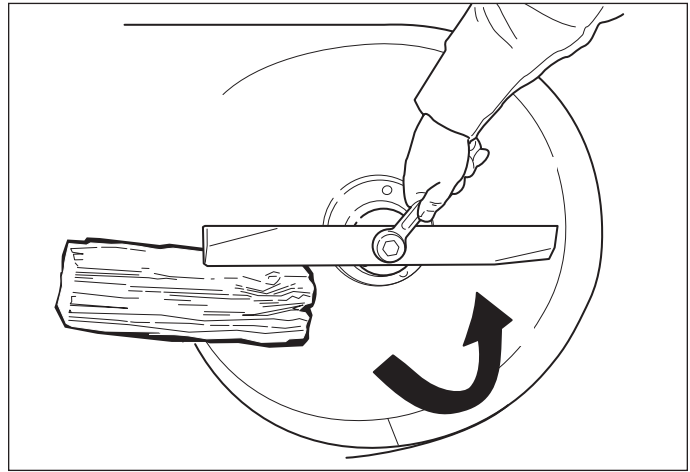

Figure 2. Removing the Mower Blades
1. To remove the mower blade, wedge a wooden block between the mower blade and the mower deck housing to keep the mower blade from turning, then remove the 5/8" hardware. See **Figure 2**.